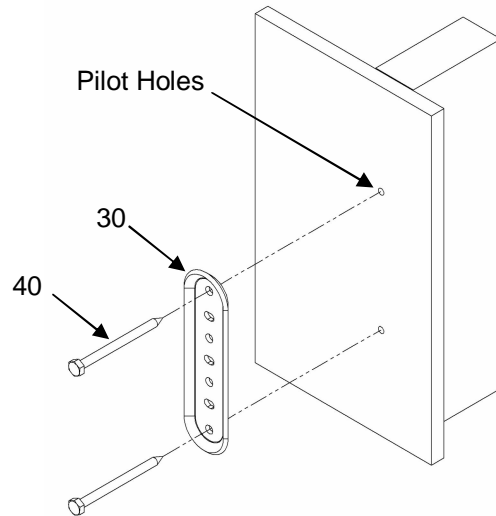

Figure 3. Secure Wall Bracket
2. Using wall bracket (30) as a template, mark two pilot holes. (See Figure 3).